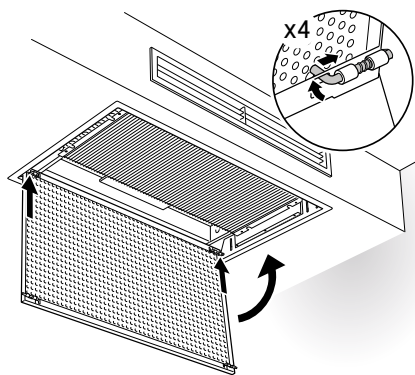

FIGURE 9
- 3) Once the nozzles are adjusted to your liking, reconnect the water connection, close the swing down door and fasten the screws. (See **FIGURE 9**).